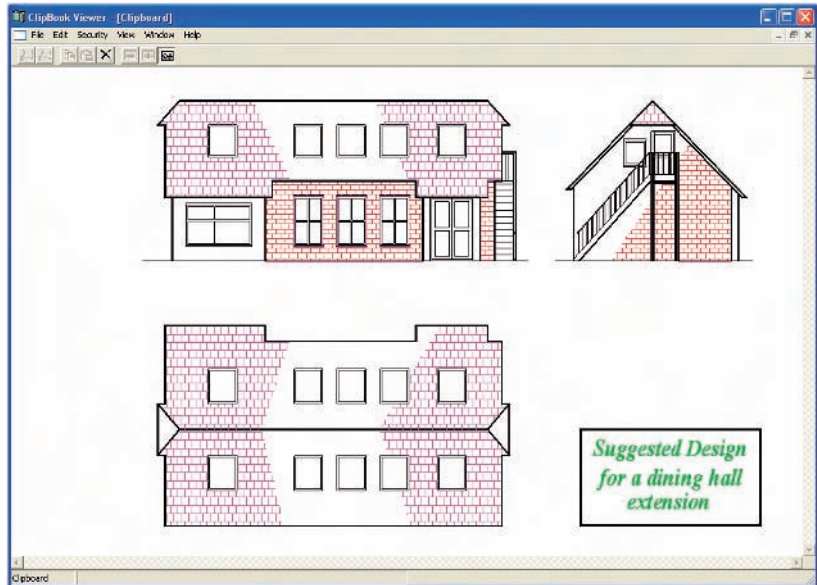

Fig. 10.2 The drawing from AutoCAD copied to the Clipboard
3. *Click* the AutoCAD 2007 **Minimize** button and open the **Clipboard** viewer. The copied drawing appears in the clipboard (Fig. 10.2).